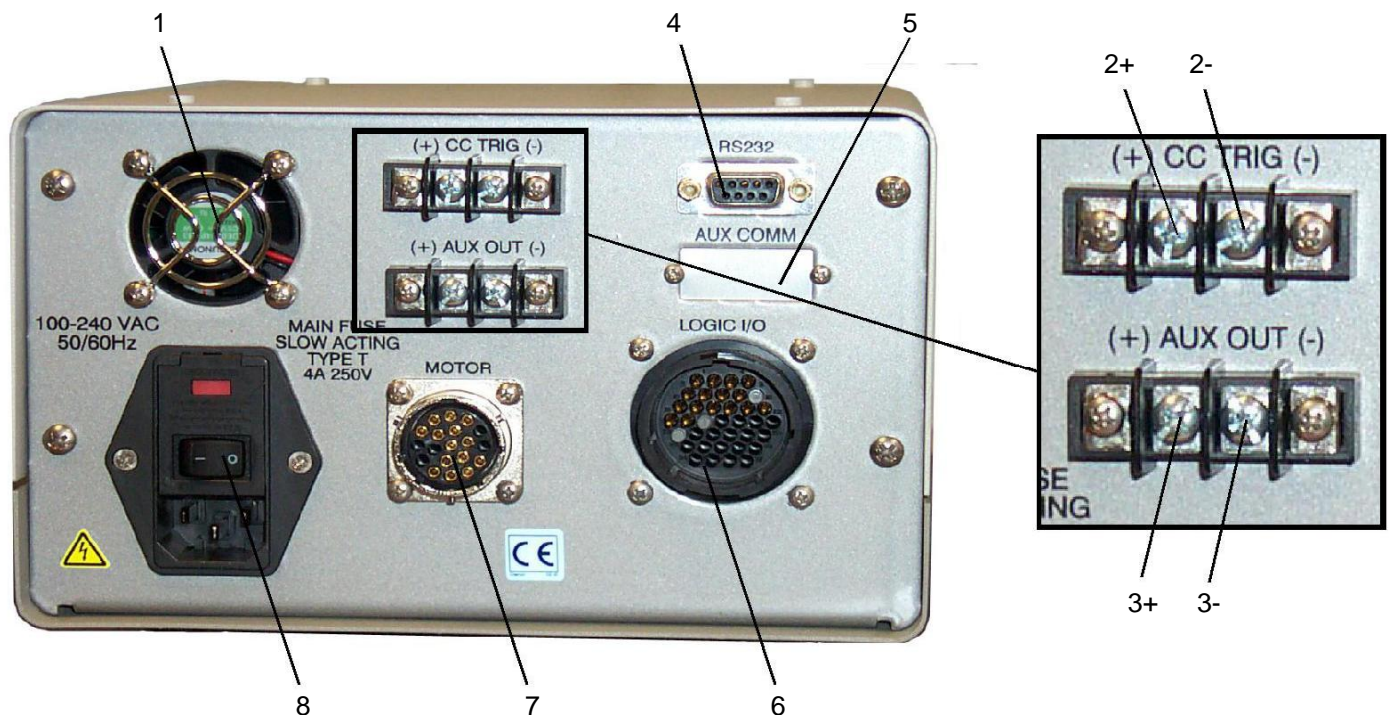

Figure 3.2 Digispense 3020 Controller Module Rear Panel
**3.1.2 Rear Panel Detail (Figure 3.2)**
### 3.1.2.1 Fan (Figure 3.2 Item 1)
### 3.1.2.2 AUX OUT Terminal Strip (Figure 3.2 Item 2)
### 3.1.2.3 CC TRIG Terminal Strip (Figure 3.2 Item 3)
### 3.1.2.4 RS232 Connector (Figure 3.2 Item 4)
### 3.1.2.5 AUX COMM Connector (Figure 3.2 Item 5)
### 3.1.2.6 LOGIC I/O Connector (Figure 3.2 Item 6)
### 3.1.2.7 MOTOR Connector (Figure 3.2 Item 7)
### 3.1.2.8 Power Entry Module (Figure 3.2 Item 8)